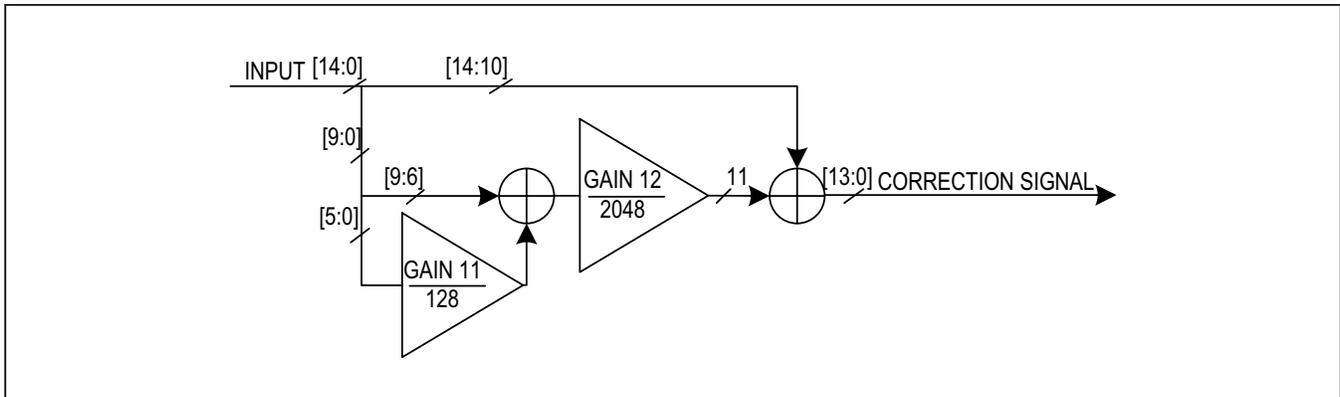

Figure 25. Static Linearity Correction Block
- Static linearity correction: Corrects for deterministic gain error in 9 LSBs. Improves ACP by 1dB to 1.5dB and improves the DAC wideband noise floor by 2dB to 3dB. See Figure 25.
The static linearity correction block is shown in Figure 25. This block sits on the output of the DPD and directly drives the RF DAC. The algorithm has two user-programmable gains to adjust the LSB to MID segment boundary and the MID/LSB to MSB segment boundary. Gain 11 has a programmable range from 96 to 144 (<register value>/128, 128±16, reset value 128) and gain 12 has a programmable range from 1920 to 2176 (<register value>/2048, 2048±128, reset value 2048). Gain 11 and Gain 12 have registers for storing the user defined values.